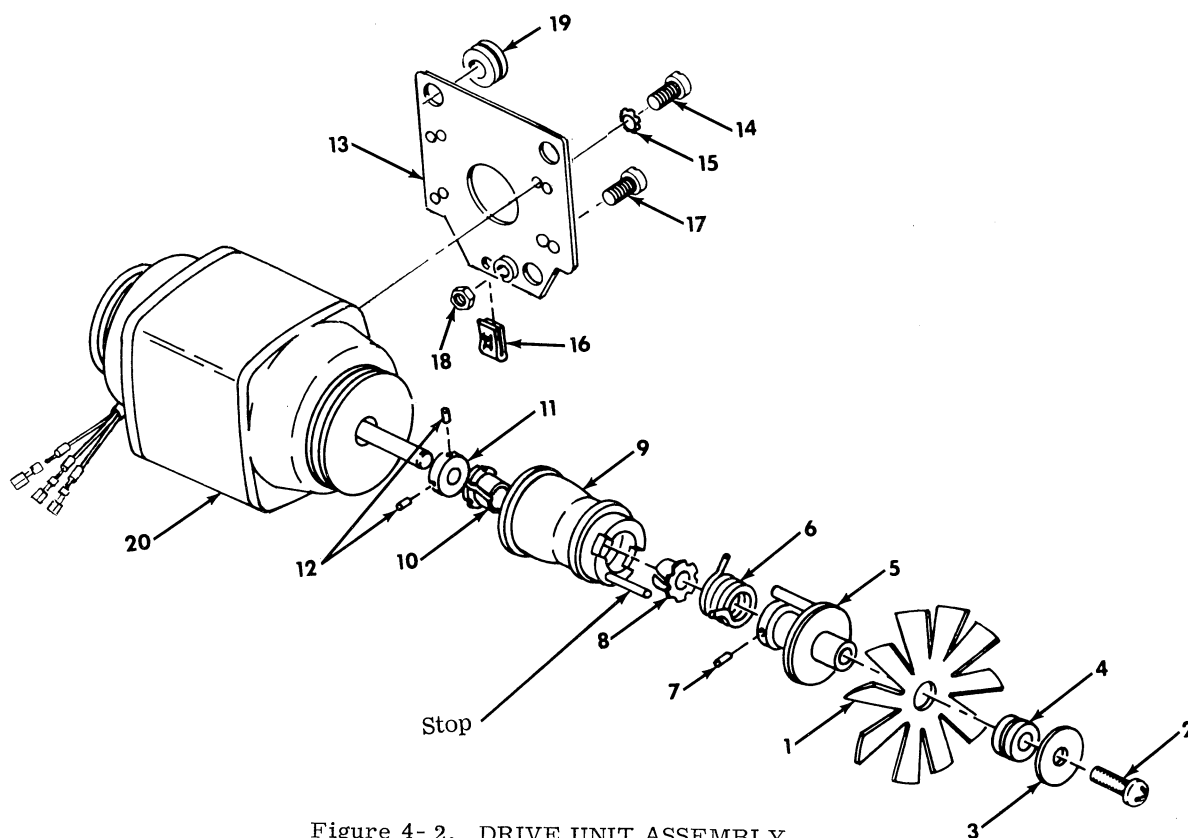

Figure 4- 2. DRIVE UNIT ASSEMBLY
1. Start adjustments of Motor mounting with one each of Washers (6) (35473-63X) and (4) (35473-46X) on each mounting screw of the Motor Mounting Plate (11). (Washer (2) is shown on drawing as reference only; see Step 5 below).
2. Thread Nut (9) all the way down to Motor Mounting Plate (11).
3. Loosen Nut (7) and turn Screw (1) counterclockwise (using screw-driver slot) to relax tension on Motor Belt. (Figure 4- 3)